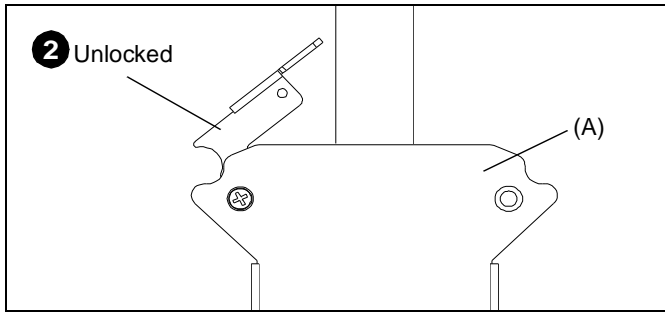

Figure 7
1. Install FSB interface bracket (E) to display using the instructions and hardware provided with the interface bracket kit.
2. Make sure latching flag on FSP mount (A) is in the unlocked position. (See Figure 7)